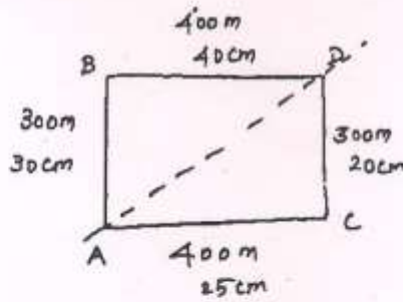

Fig. Q15(b)
- (b) Find the equivalent pipe AD for the network ABCD shown in Fig Q15(b) by equivalent pipe method. (16)